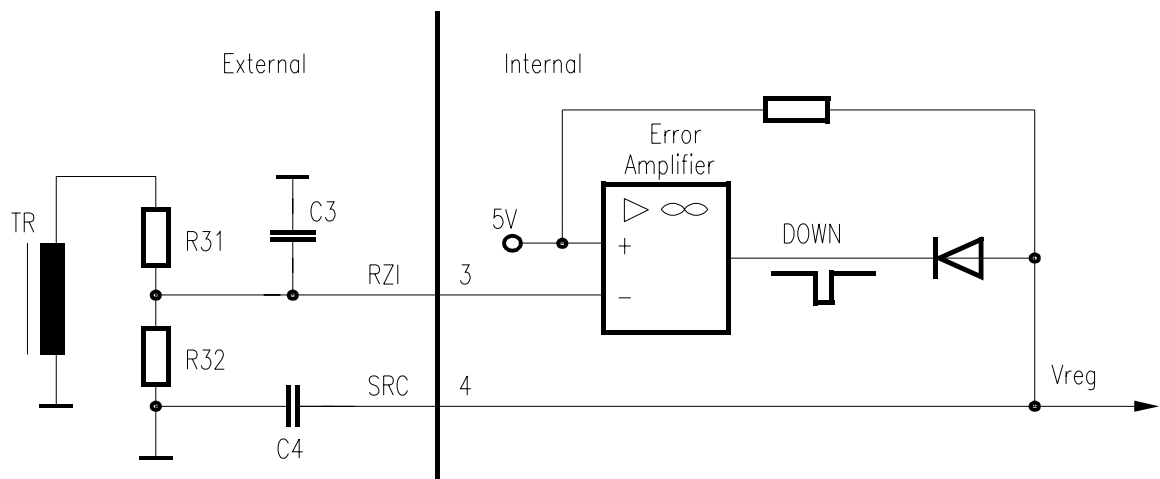
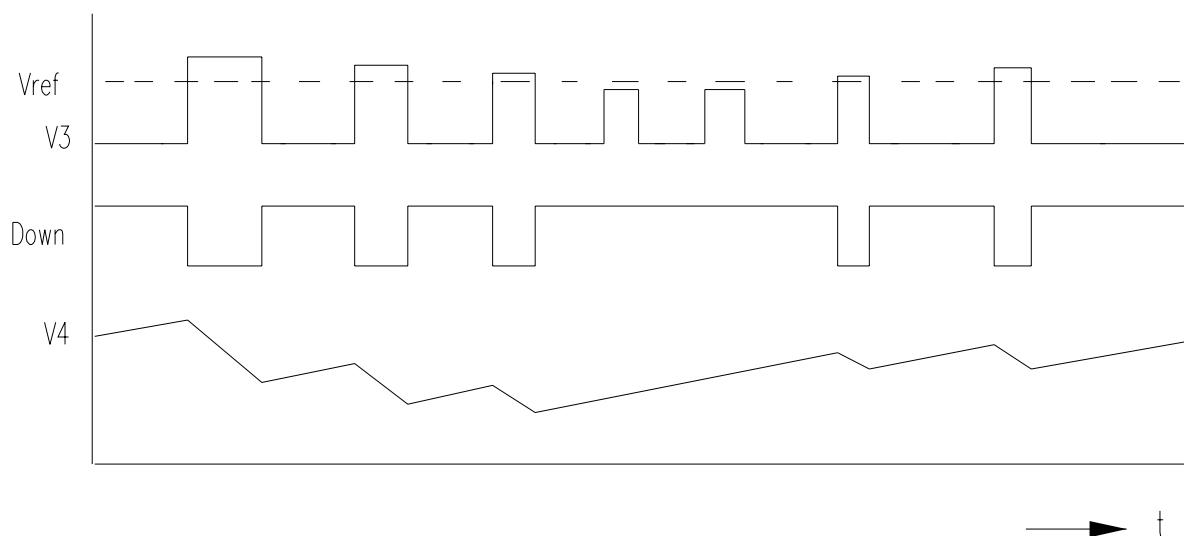

Figure 9 Error Amplifier
Figure 10 Regulation Pulse Diagram
Figure 9 shows the simplified Error Amplifier circuit. The positive input of the Error Amplifier (EA) is the reference voltage 5 V. The negative input is the pulsed output voltage from the auxiliary winding, divided by R_{31} and R_{32} . The capacitor C_3 is dimensioned only for delaying zero crossings and smoothing the first spike after switch-off. Smoothing of the regulation voltage is done with the soft start capacitor C_4 at Pin 4. During start up C_4 is charged with a current of approx. 2 μA (Soft Start). For primary regulation C_4 is charged and discharged with pulsed currents. **Figure 10** shows the voltage diagrams of the Error Amplifier circuit.